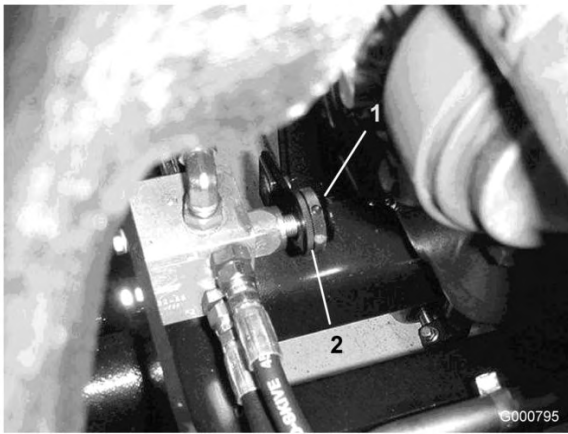

Figure 90
5. Locate valve in front of rear axle for rear cutting units (Figure 90).
6. Loosen locking ring securing knob (Figure 90).